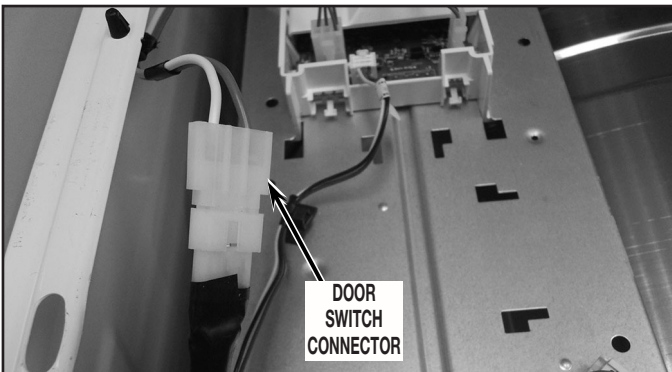

FIGURE 6
6. Disconnect door switch connector. See *Figure 6*.